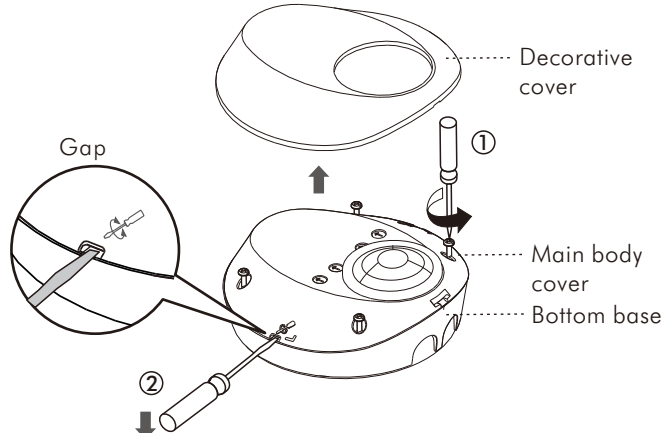

FIG.6
- 3.4.1.2 Unscrew the 4 screws on main body cover to separate it from bottom base (See FIG.6).